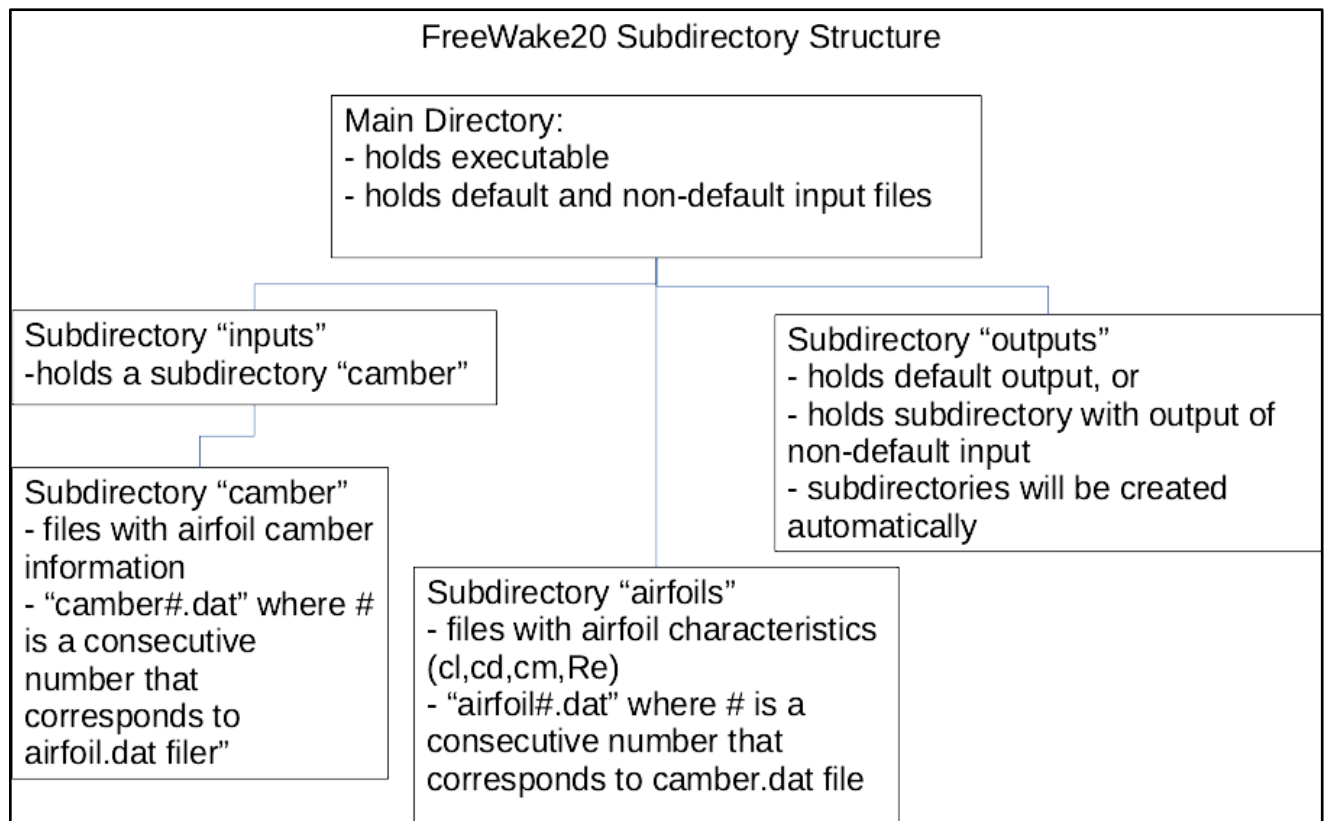

Figure 1: Subdirectory structure of FreeWake20.
Using camber (1) or no camber (0) camber = 1 =1 **than camber files have to exist (Fig. 1)**